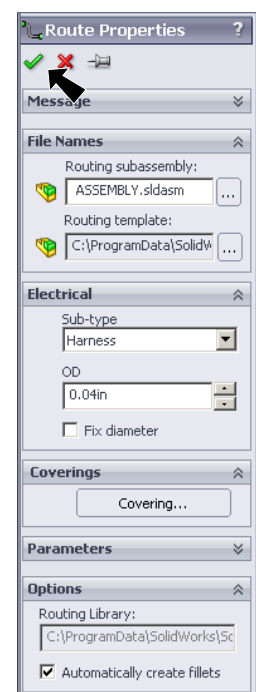

Fig. 3
Step 3. Click OK  in the Route Properties Property Manager, **Fig. 3**.